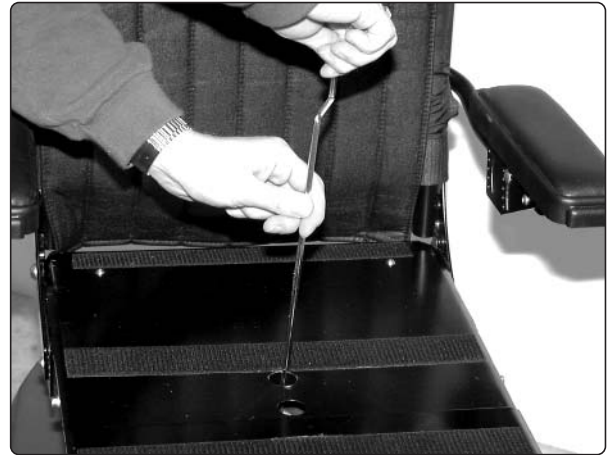

Fig. 4. Using the seat crank to raise the seat.
3. Crank up the seat using the seat lift crank supplied, see figure 4.